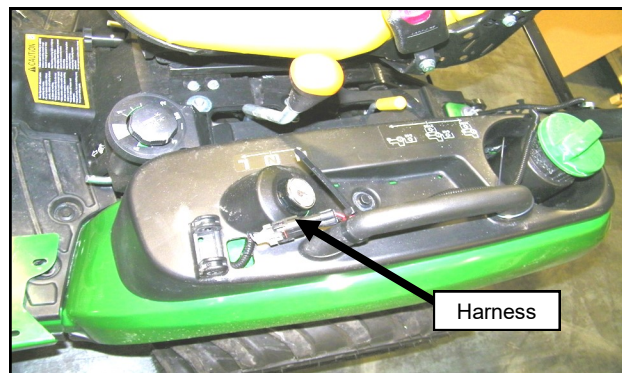

Fig. 5.1 (Plug In Fender Light Harness)
- 5.1 Locate a fender light wiring harness (WH-00071). Connect a harness to the fender light plug. Pull out as much of the fender light plug wire as possible and run the harness back along the grab handle on the fender and secure it to the handle with wire ties. See figure 5.1.